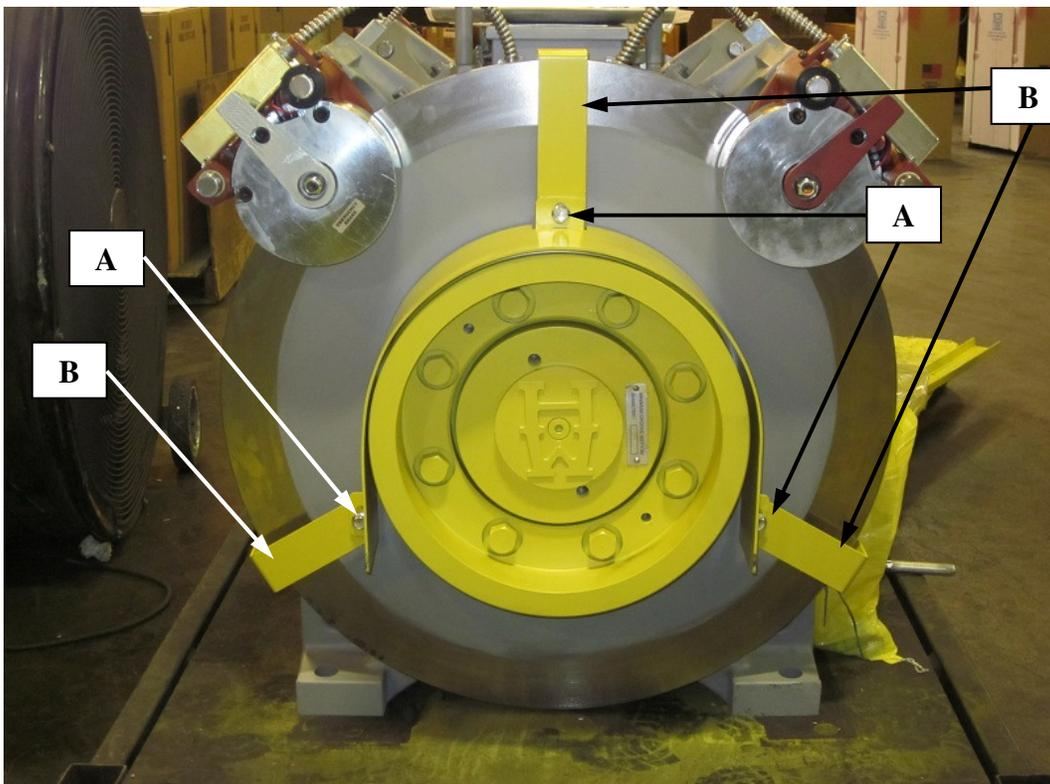
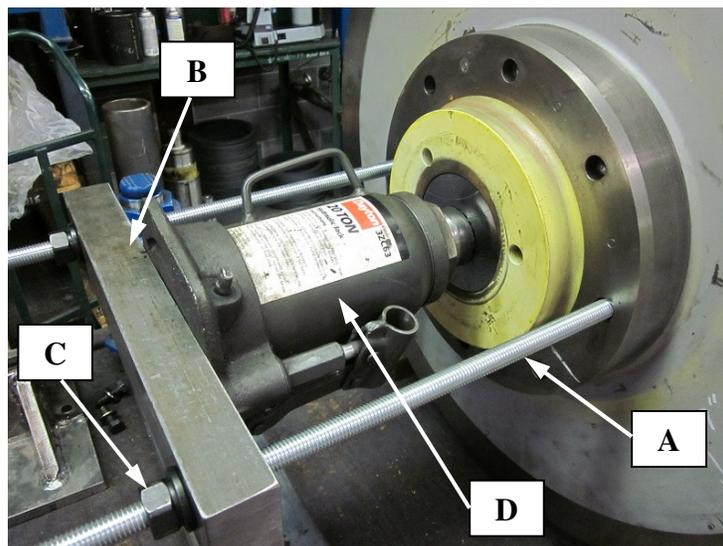
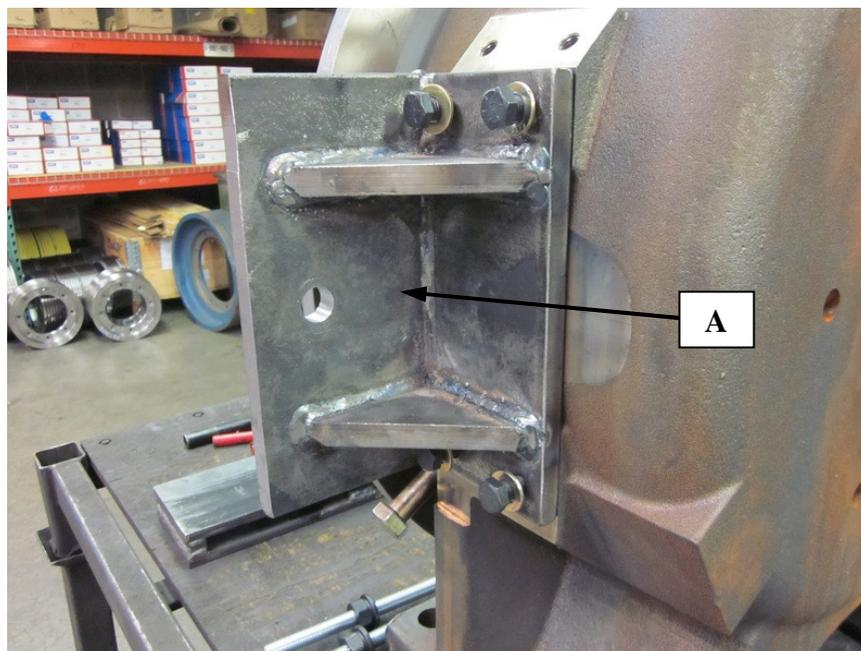
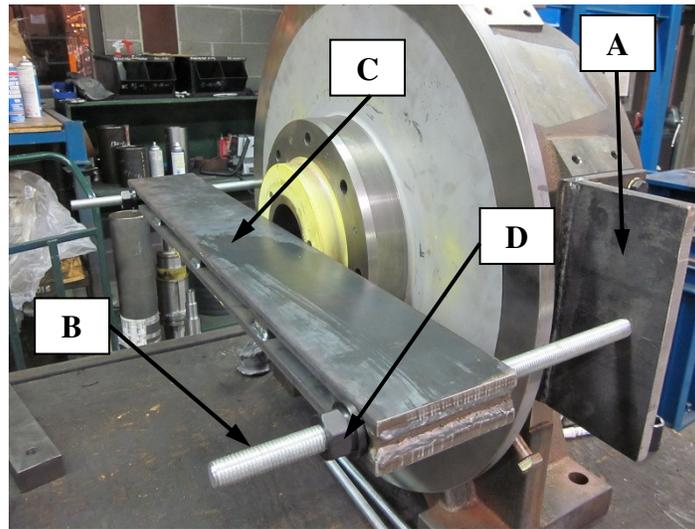

Figure 1
Figure 5
Figure 12
Figure 13
- Tools required - 3mm hex key, 9/64" hex key, 5/16" hex key, (2) - 9/16" wrenches (or adjustable wrenches), 3/4" wrench (or adjustable wrench), 1-1/8" socket, 1-1/4" wrench (or adjustable wrench), flat-blade screwdriver, 3 rear cap jack bolts 1/2"-13 with 3" of usable thread, 3 rotor lock bolts 3/4"-10 with at least 2" of useable thread. 2 pieces of 5/8" threaded rod at 18" long, 2 pieces of 3/4" threaded rod at 18" long, 2 heavy duty nuts for the 5/8" rod, 4 heavy duty nuts for the 3/4" rod, 20 ton hydraulic jack with 6" of stroke and the necessary tools to remove the machine from the mounting structure (if necessary.)
- **PARTS FABRICATED BY SERVICE PROVIDER:** front jack support plate (figure 5), rotor support bracket (figure 12), rotor support bar (figure 13), and rear jack support plate (figure 16). Pictures in manual for **reference only**. Fabricated parts to be made and designed to handle work being required of job. Use good judgment and common fabrication practices on all fabricated parts. Read manual and take measurements on machine to determine specifics on fabricated parts.
- Once the car has been suspended, and the tension has been removed from the hoist ropes, remove the traction sheave guard by removing bolts "A" and their corresponding lock nuts. Figure 1.
- After the guard has been removed, remove the guard brackets "B", by removing the bolts and washers that attach the brackets to the body of the machine. (Note: bolts behind rotor) Figure 1.
- Next install the 2 pieces of 5/8" threaded rod, "A", into the 2 traction sheave mounting holes in the rotor. With the threaded rod in place, slide the front jack support plate, "B", over the threaded rods, followed by heavy duty nuts, "C." After the basic assembly is ready, hold the hydraulic jack, "D", centered on the machine shaft, and tighten the heavy duty nuts, "C", to hold the jack in place. **DO NOT BEGIN PRESSING THE SHAFT AT THIS TIME!** See Figure 5.
- After the shaft removal hardware has been removed, fabricate and install two rotor support brackets, "A", in the lowest brake locations on the machine body (Optional Mounting Location #1 and #2 from Figure 1.) If there are brakes located at those mounting pads, follow Bulletin 1159 for Warner Brakes, and Bulletin 1158 for Mayr Brakes, to remove the brakes so the support plates can be mounted. Refer to Figure 12.
- After both support brackets, "A", are mounted, install the 3/4" threaded rod, "B", through the brackets and secure the end of the rod towards the rear of the machine with a heavy duty nut. Next, install the rotor support bar, "C", over the threaded rod and across the face of the rotor (or traction sheave, if the traction sheave is still in place on the machine.) Secure the rotor support bar to the threaded rod with heavy duty nuts, "D." Once all the equipment is in place, hold the rotor support bar across the center of the rotor, and tighten all the nuts on the threaded rod firmly to prevent the rotor from pushing forward as the new shaft and bearing assembly is pressed in. Refer to Figure 13.